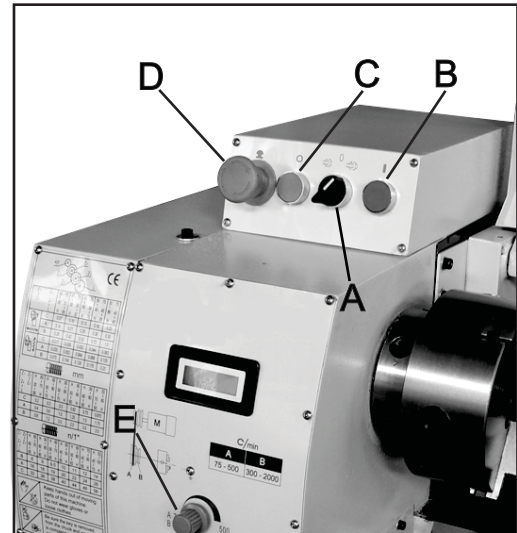

Fig. 11
1. Change-over Switch (A, Fig. 11)
2. Emergency Button ON/OFF Switch (B,C,D Fig. 11)
3. Variable Speed Control Switch (E, Fig. 11)